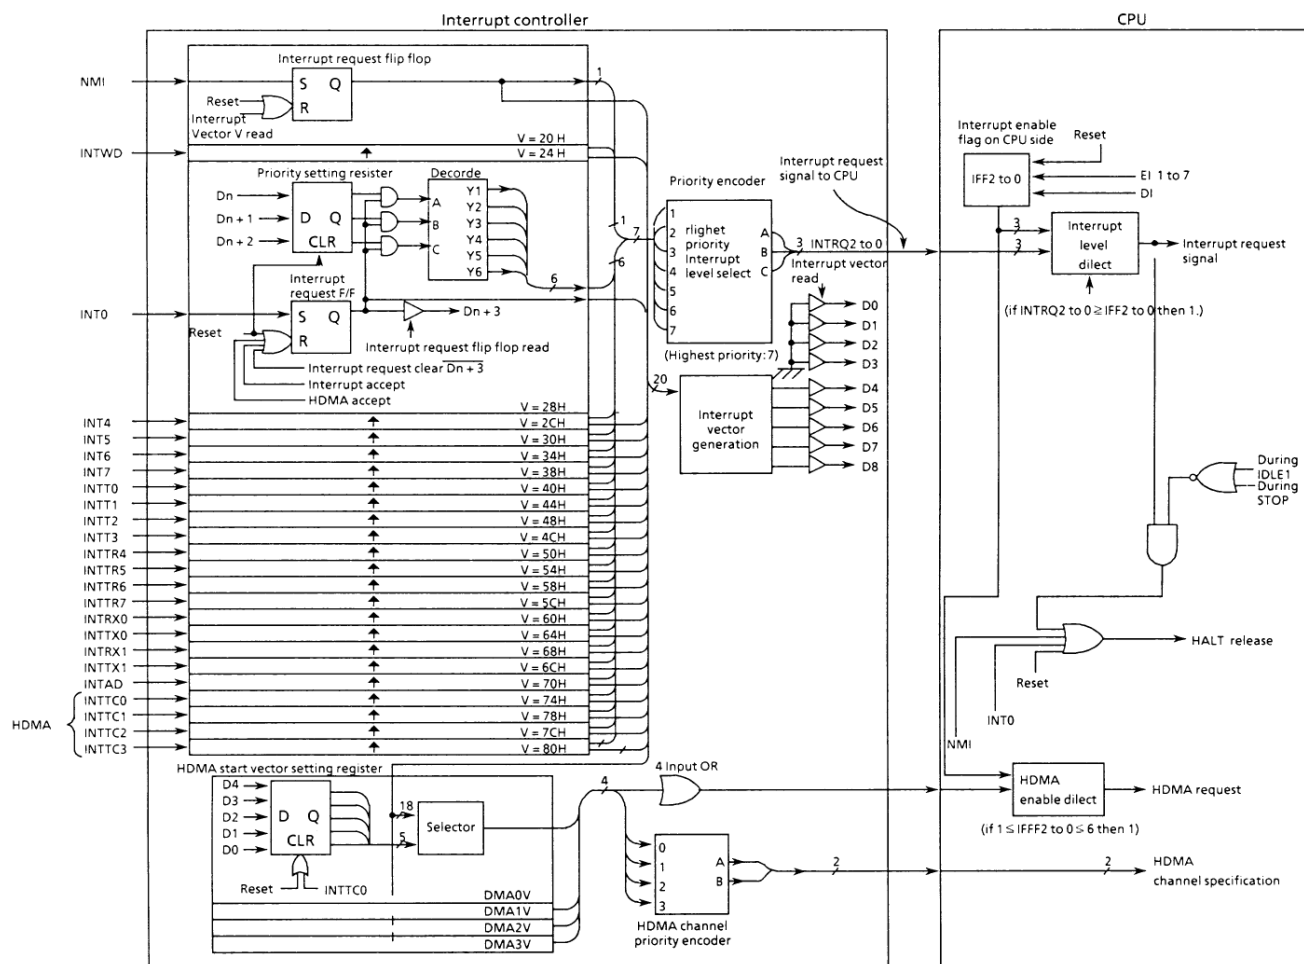

Figure 3.3.3 (1). Block Diagram of Interrupt Controller
Figure 3.3.3 (1) is a block diagram of the interrupt circuits. The left half of the diagram shows the interrupt controller; the right half includes the CPU interrupt request signal circuit and the HALT release signal circuit.